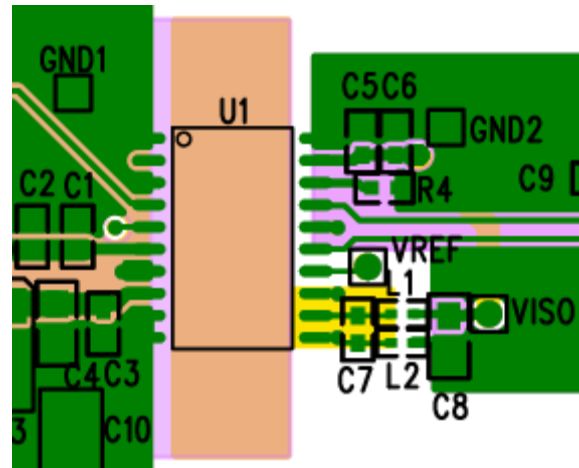

Figure 4. Layout Notes for EVAL-ADM3053EBZ
- Do not connect the  $V_{ISOOUT}$  pin to a power plane; connect between the  $V_{ISOOUT}$  pin and the  $V_{ISOIN}$  pin using a PCB trace. Ensure  $V_{ISOOUT}$  (Pin 12) is connected first through the L1 ferrite before connecting to  $V_{ISOIN}$  (Pin 19), as shown in Figure 4.
- An embedded stitching capacitor between the GND1 PCB plane and GND2 Pin 11 and Pin 13 (inside L2 ferrite) using internal layers of the PCB planes as highlighted in the area around U1 in Figure 4 (see the Overlapping Stitching Capacitor section).
- Ensure that GND2 (Pin 16) is connected to the main bus side PCB ground plane outside of the L2 ferrite, as shown in Figure 4.